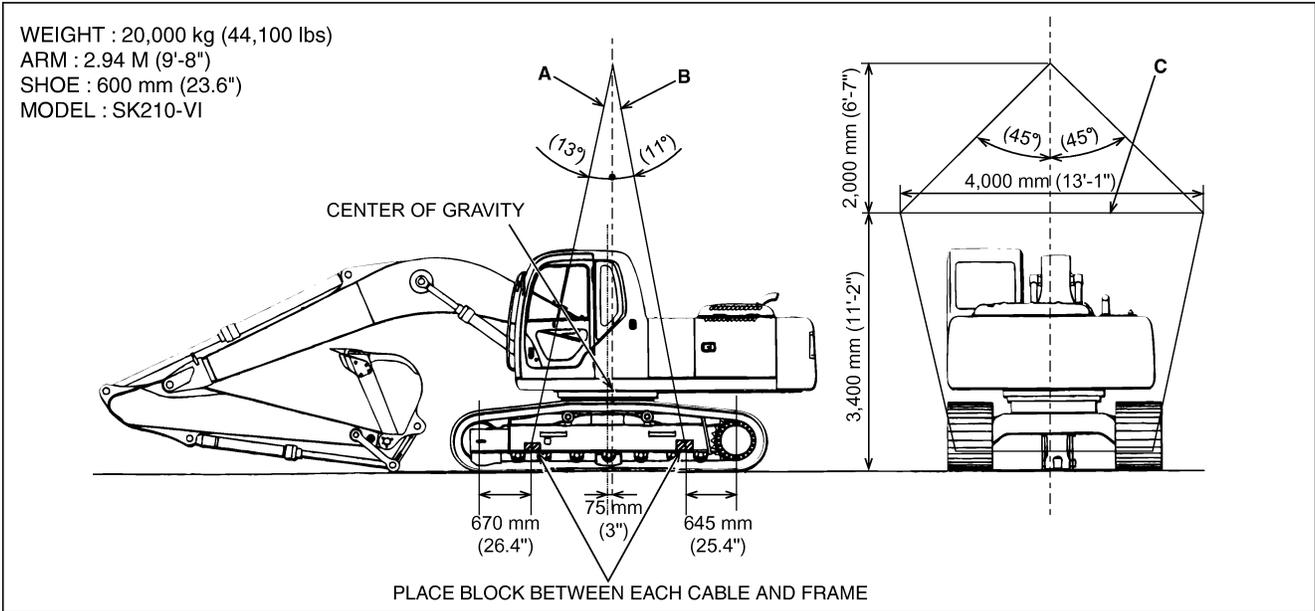

FIGURE 5.5A
- c. Bring loose ends of cables together at machine center of gravity and attach to an overhead lifting device with a rated lifting capacity sufficient to lift the machine. See Figure 5.5A to 5.7A.
NOTE: It may be necessary to place reinforced spreader bars between lifting cables to prevent damage to the machine during lifting. See Figures 5.5A to 5.7A.